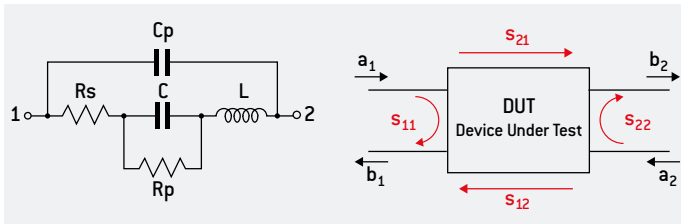
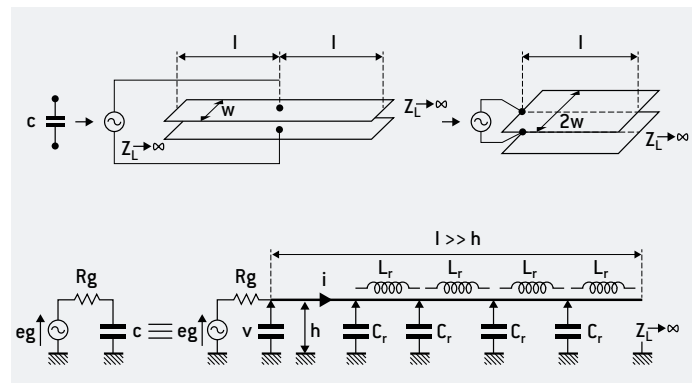
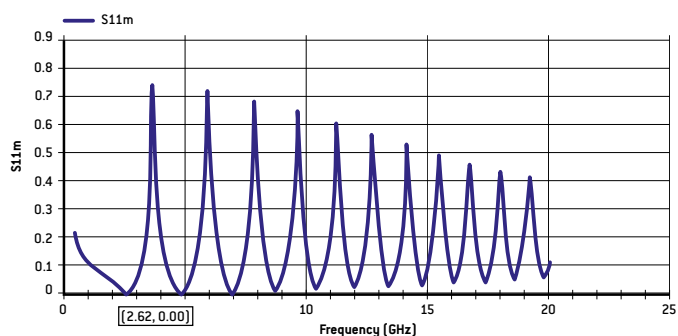
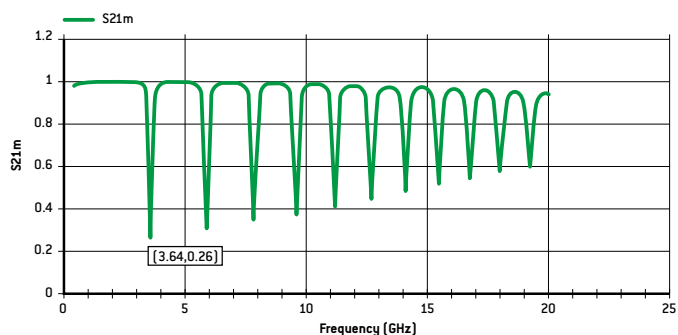

Figure 1: Equivalent Model
Figure 7: Transmission line model of a Single Layer Capacitor
Figure 4: S11curve for a 251SHF150 from EXXELIA ABC software
Figure 5: S21curve for a 251SHF150 from EXXELIA ABC software
The equivalent model for a capacitor is usually defined by the figure 1 where:
The variation of S11 (figure 4) and S21 (figure 5) show the different resonance frequencies SRF [serial resonance frequency] and PRF [parallel resonance frequency]
For example for a 251SHF150 (size 0805 and capacitance 15 pf): SRF=2.64 GHz and the ESR at this frequency is 0.200 ohm (figure 5)
- The PRF is associated with the parasitic capacitance Cp defined in figure 1. Assuming that Cp << C, then:
The PRF could be determined by the S21 measurements (figure 5)
The lumped model shown in Fig. 1 explains only the existence of one serial self-resonant frequency and one parallel self-resonant frequency, consequently, the lumped model is unable to explain why real measurements exhibits a double infinity of self-resonant frequencies (see figures 4, 5 & 6).
It is currently admitted [1] that the lumped model shown in Fig. 1 is convenient only for frequencies that are lower than roughly the half of the first SRF. For frequencies close or above the first SRF, it is mandatory to consider the distributed model or transmission line model [1].
This distributed model can be established more easily with the equivalent circuit of a Single Layer Capacitor (SLC) shown in Fig. 7:
After examination of Fig. 7, one can see that a Single Layer Capacitor can be modeled by a transmission line with an open termination that is currently called an "open stub".
Consequently, for predicting and understanding the behavior of a capacitor at frequencies that are close or above the first SRF, the lumped model (shown in Fig. 1) is not applicable and must be replaced by the distributed model or transmission line model (shown in Fig. 7).